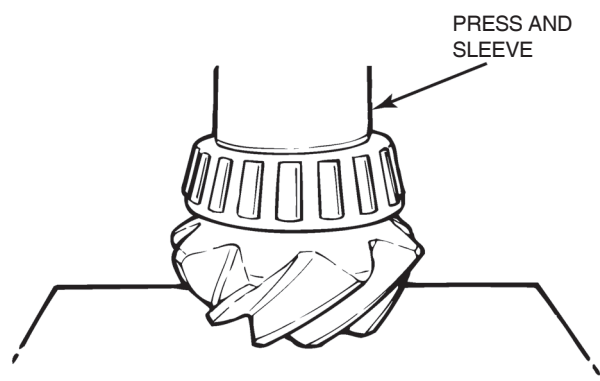

Figure 5.5
2. If removed, use a press and a sleeve to install the inner bearing cone onto the drive pinion. Place the sleeve on the inner race of the bearing. Apply pressure until the bottom of the cone touches the shoulder on the pinion. Figure 5.5.